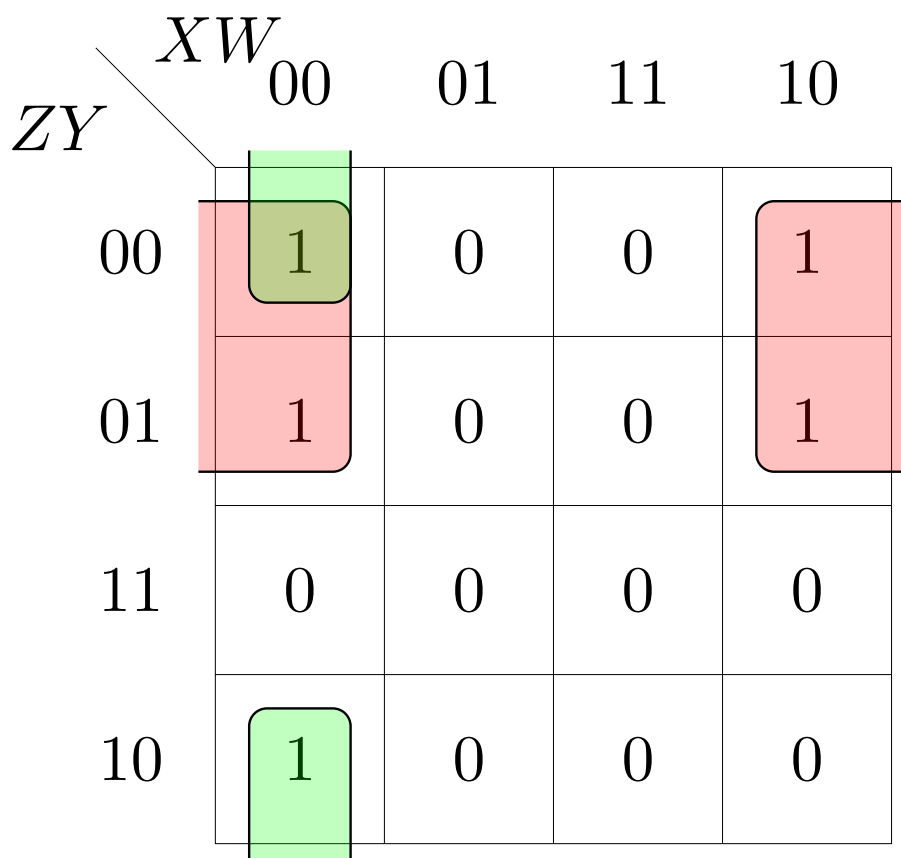

Figure 4.1: K-map for  $A$
1. K-Map for  $A$ : The expression in (4.1) can be minimized using the K-map in Fig 4.1
In Fig 4.1, the implicants in boxes 0,2,4,6 result in  $W'Z'$  The implicants in boxes 0,8 result in  $W'X'Y'$  Thus, after minimization using Fig 4.2, (4.1) can be expressed as